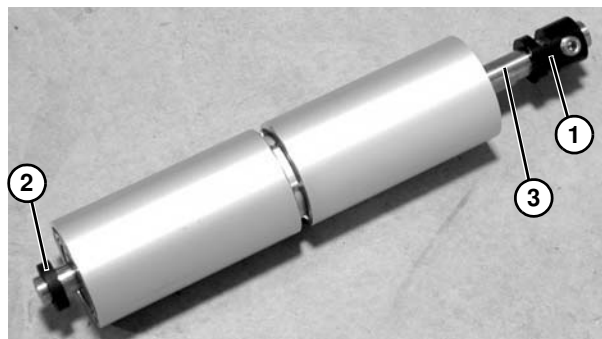

Figure 158
10. Remove the tension pulley locking collar (**Figure 158, item 1**), spacer (**Figure 158, item 2**) and pulley shaft (**Figure 158, item 3**) from the roller pulley shaft assembly.